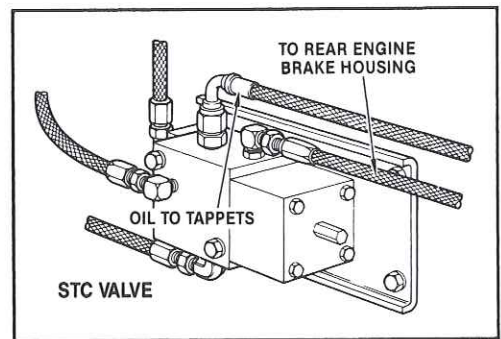

Fig. 31
6. Connect the other end to the fitting on the STC valve as shown in Fig. 31. Route the hose along the engine. Tighten the fittings at each end of the hose.